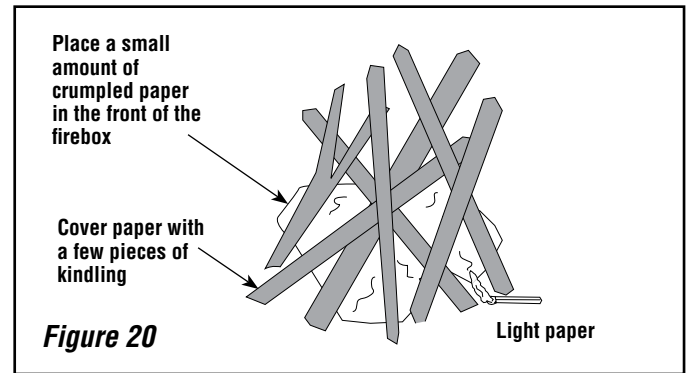

**Figure 19**
5. **When operating any wood burning appliance, it is important to become familiar with how the damper control affects heat output and the overall temperature of the appliance. A stove thermometer can be a helpful tool to help ensure you are not over-firing your appliance and it will also ensure you are burning fuel at a rate that is most efficient. Place a stove thermometer on the top of the appliance as shown in *Figure 19*. Monitor the temperature every 15 minutes or so until you become more familiar with your appliance. Close the damper all the way down if you begin to reach 600 degrees, as this is a sign that you are operating your appliance at too high a temperature.**